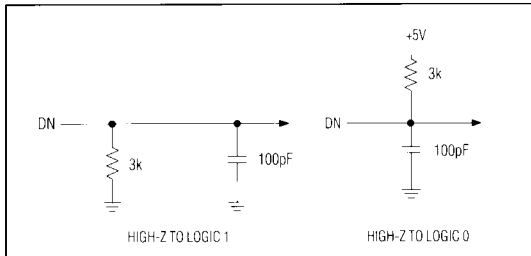

Figure 1. Load Circuit for Access Time Test
**Note 6:** Timing specifications guaranteed by design. All input control signals specified with  $t_r = t_f = 5\text{ns}$  (10% to 90% of +5V) and timed from a voltage level of +1.6V. See loading circuits in Figures 1 and 2.